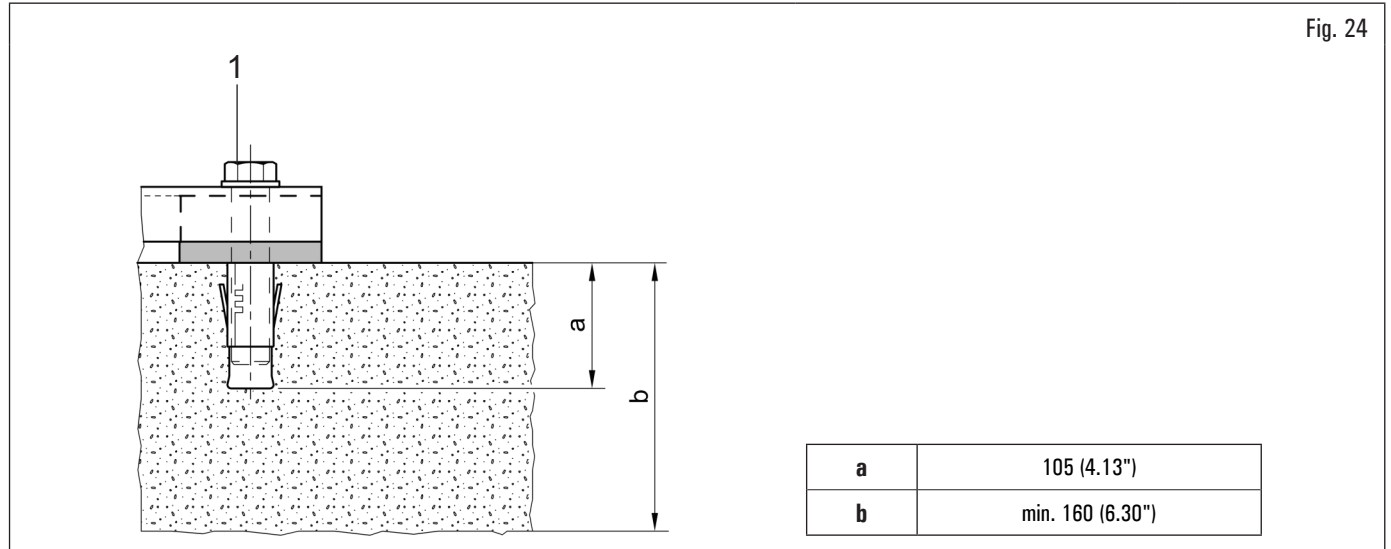

Fig. 24
The packed equipment is secured to the support pallet through the holes on the frame and indicated in Fig. 24. These holes can be used to secure the equipment to the floor, using suitable concrete anchors (not included). Before concrete anchoring to floor, check that all the anchor points are flat, or level in contact with the floor. If not, shim between the equipment and the floor, as indicated in Fig. 24.
- To secure the equipment to the floor, use anchoring bolts/studs (Fig. 24 ref. 1) with a threaded shank M8 (UNC 5/16) suitable for the floor on which the tyre changer will be secured and in a number equal to the number of mounting holes on the bottom frame;